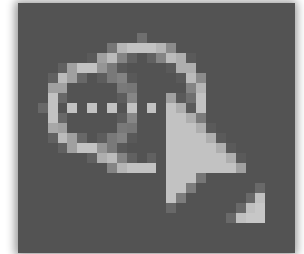

Figure 9: The Shape Builder Tool icon
- e. For more complicated merging/minus operations, you’ll want to use the shape builder tool **(Figure 9)**